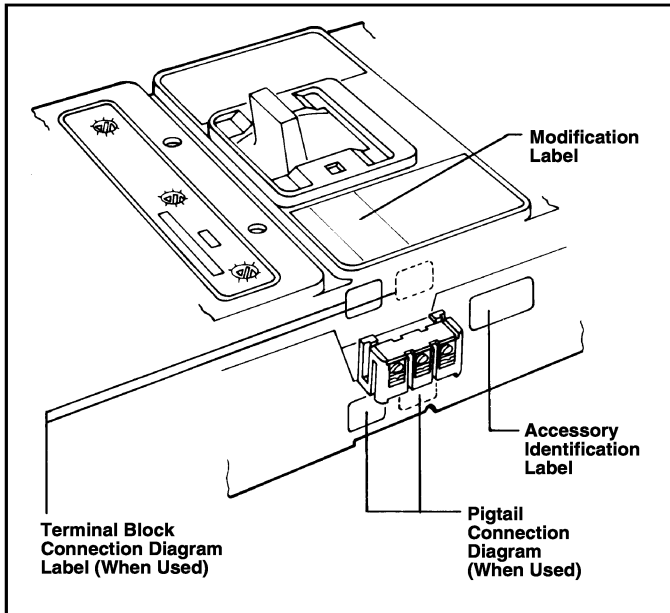

Fig. 2-7 Preferred Mounting Locations for Accessory Nameplate Labels
- 2-13. Place accessory labels (supplied with kit) on circuit breaker (see Fig. 2-7).